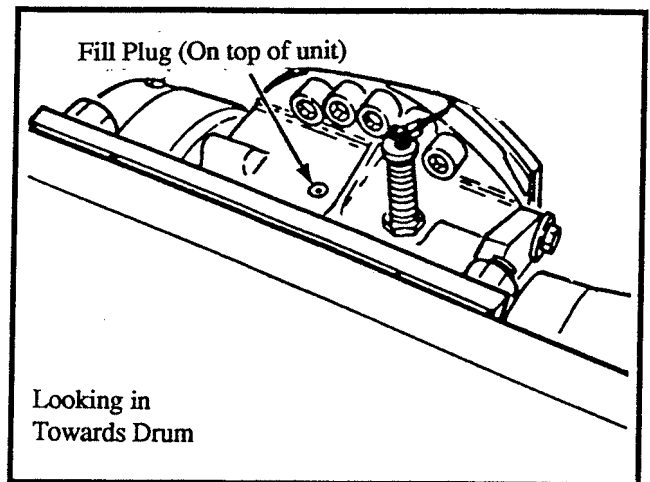

Figure 12-12. Right Angle Drive Unit
1. Remove the fill and level plugs located on the top and side of the drive unit. Refer to Figure 12-12.